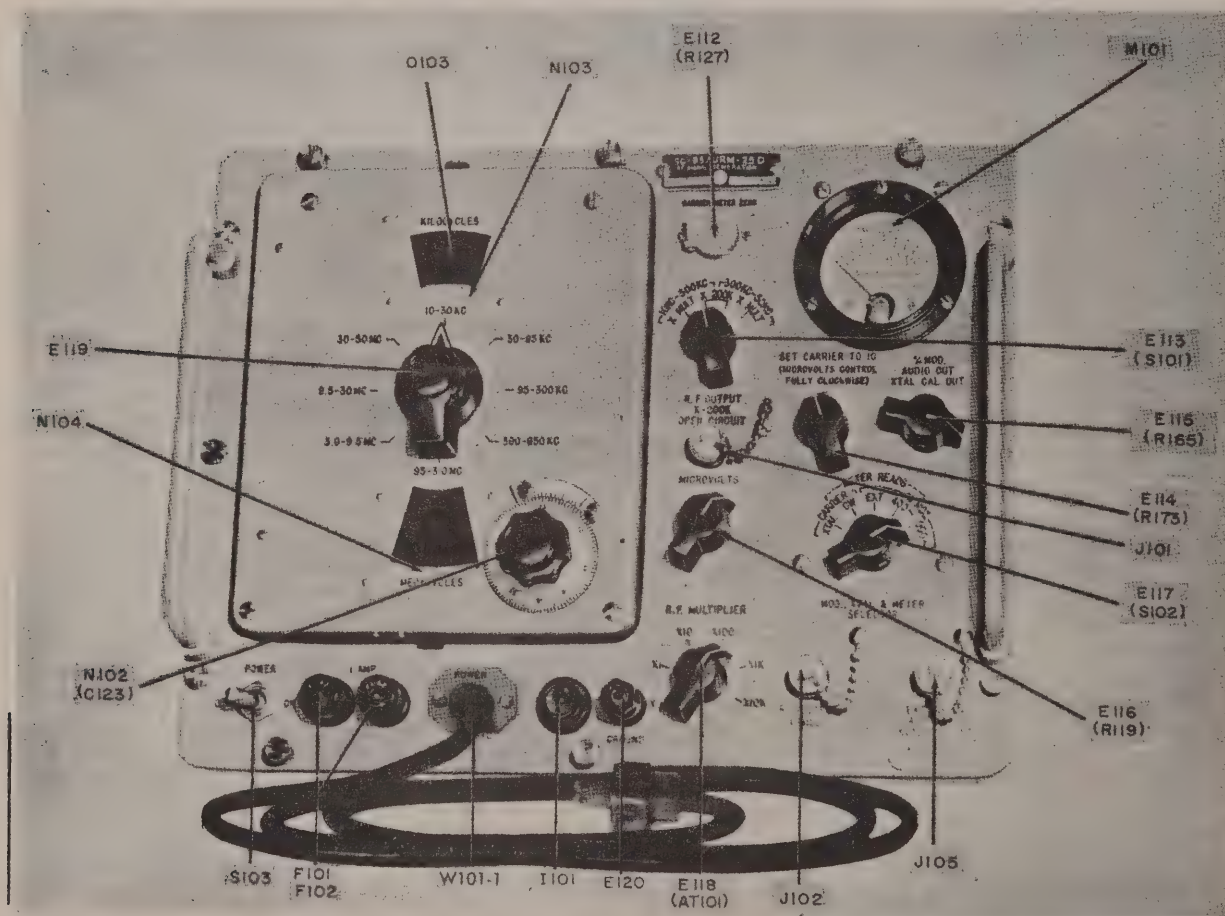

Figure 4-1. RF Signal Generator SG/URM-25D
c. The following preliminary settings and checks are required prior to placing the equipment in operation (Figure 4-1).
(1) Turn POWER switch (S103) to OFF position.
(2) Turn Carrier control (E114) and AUDIO OUTPUT control (E115) to the fully counterclockwise positions.
(3) Insert end of power cable W101-1 into the power source of 115 volt AC.